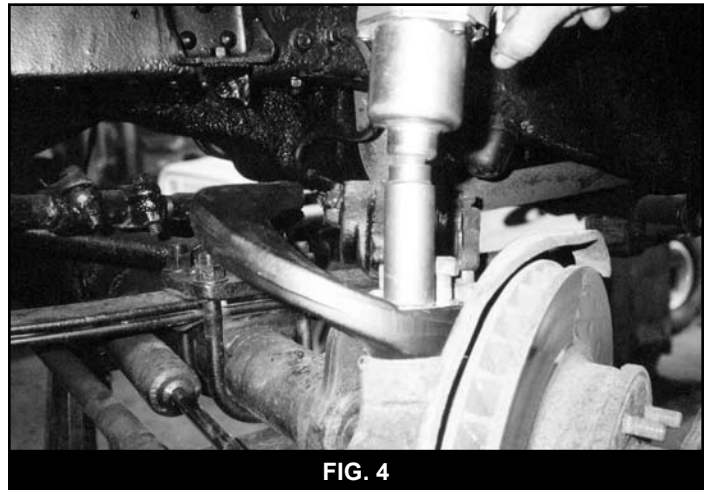

FIG. 4
9. Fully seat spring center pins into axle spring seat and secure springs to axle using the longer u-bolts, nuts, and washers supplied. (Fig 4.) Do not Torque hardware at this time. 6" and up lift kits Install sway bar drop kit #121451 per instructions at this time.